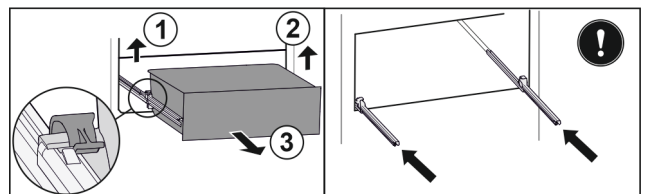

Fig. 161
- ▶ Lift left clamp and simultaneously pull drawer forwards on the left. Fig. 161 (1)
- ▶ Lift right clamp and simultaneously pull drawer forwards on the right. Fig. 161 (2)
- ▶ Remove drawer to the front. Fig. 161 (3)